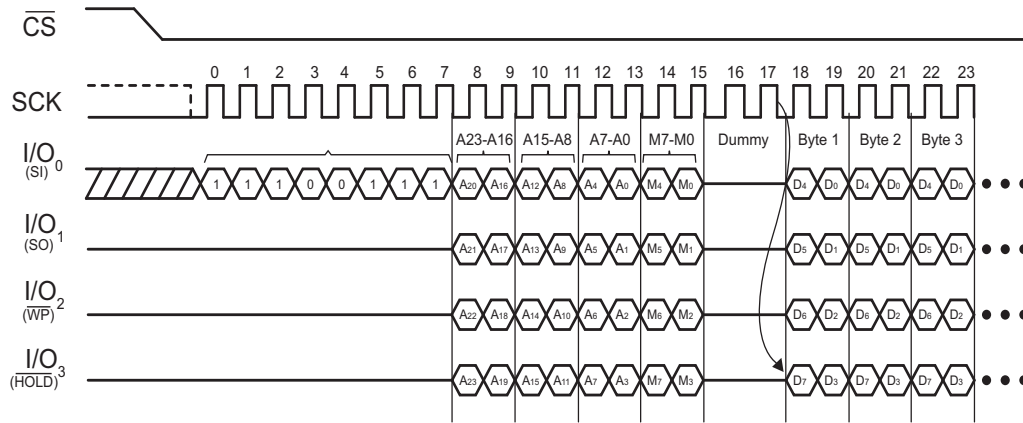

Figure 7-10. Quad-I/O Word Fast Read Timing (Initial Command Set M5, M4 ≠ 1,0) SPI Mode
The Quad-I/O Word Fast Read instruction is similar to the Quad Fast Read instruction, except that the lowest address bit (A0) must equal 0 and have two dummy clock cycles. Figure 7-10 shows the instruction sequence; the first byte addressed can be at any location. The address is automatically incremented to the next higher address after each byte of data is shifted out. The Quad Enable bit (QE) of the Status Register (S9) must be set to enable. This is the default setting on power-on.